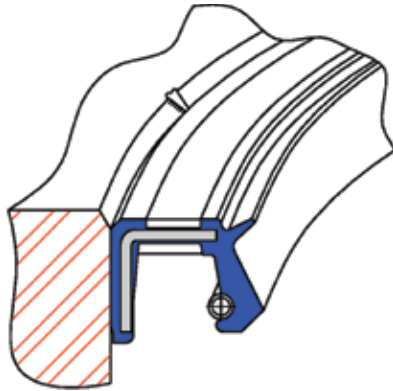

Fig 1
1. Mishandling prior to seal installation (Fig. 1)